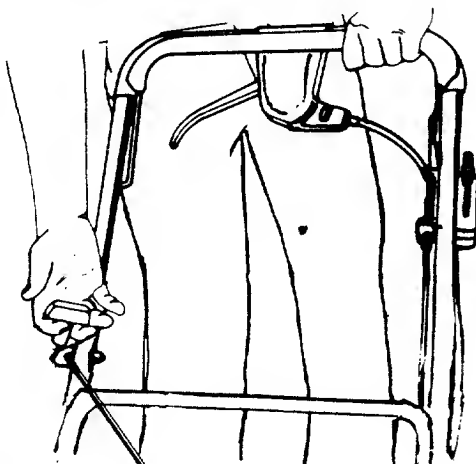

FIGURE 13.
2. Standing behind the unit, depress the blade control handle and hold it against the upper handle as shown. See figure 13.